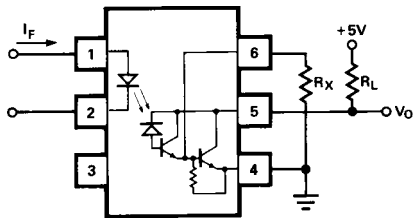

Figure 11. External Base Resistor, R_X .
- Use of a resistor between pin 4 and 6 will decrease gain and delay time. (See Figures 11, 12, and 13.)